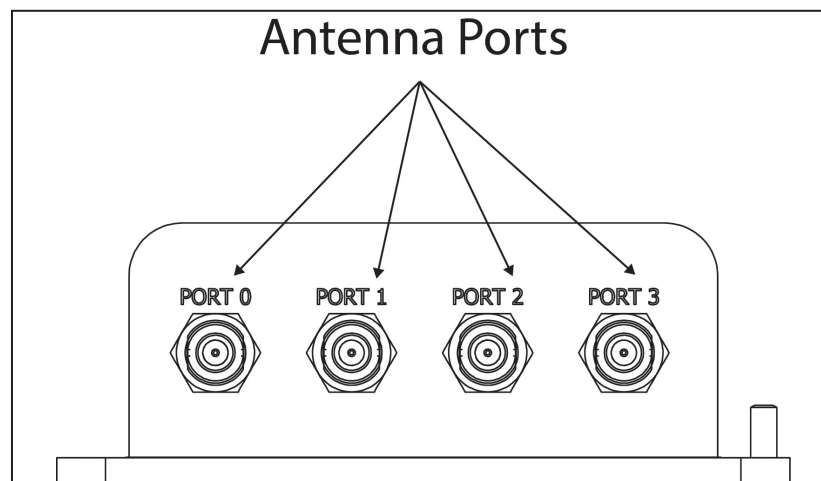

Figure 10 MPRX Showing Antenna Ports
3. Connect the other end of the RF interface cable to the appropriate antenna port on the end of the MPRX. Refer to Figure 10.